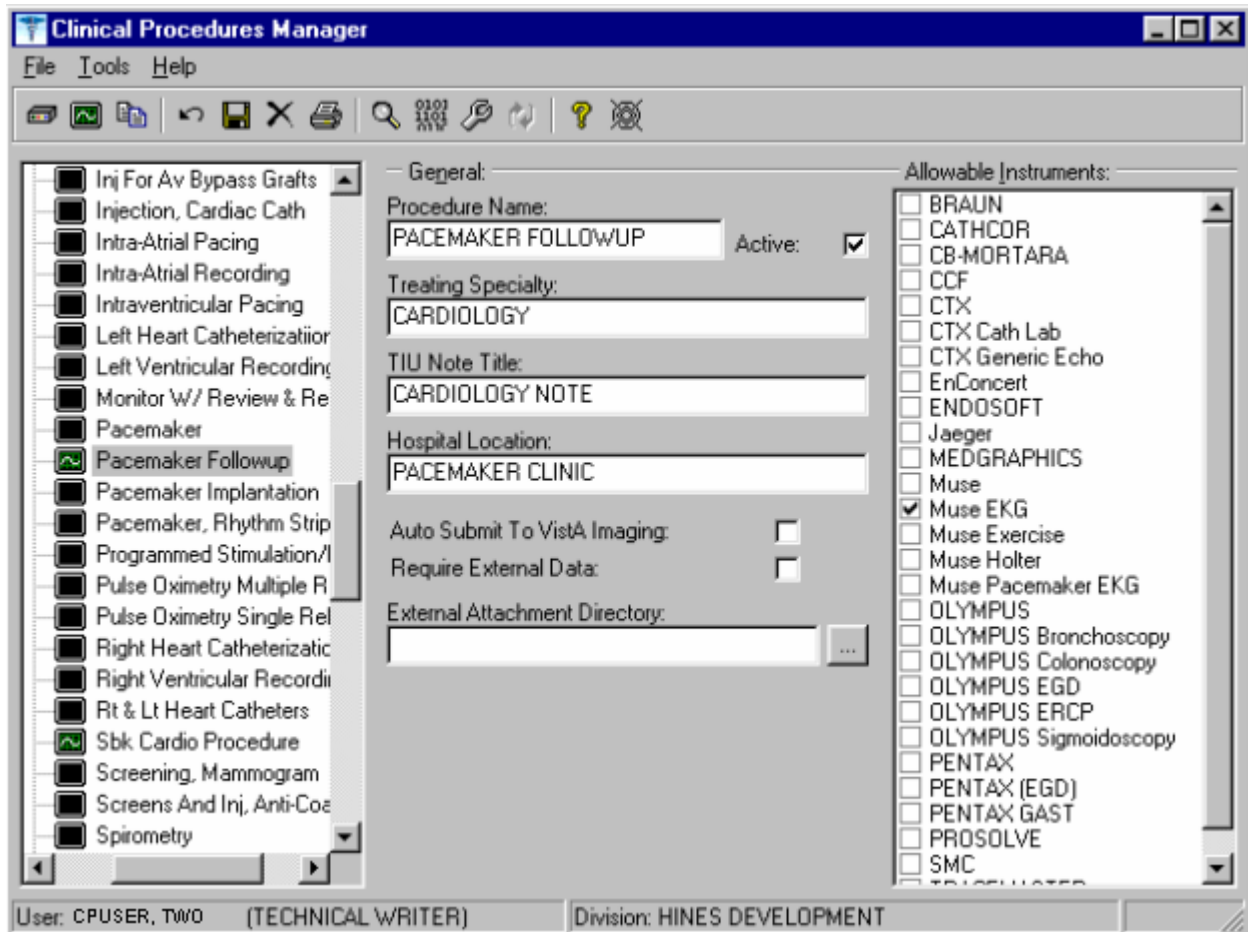

Fig. 6-7
1. View the list of procedures. See Fig. 6-7.